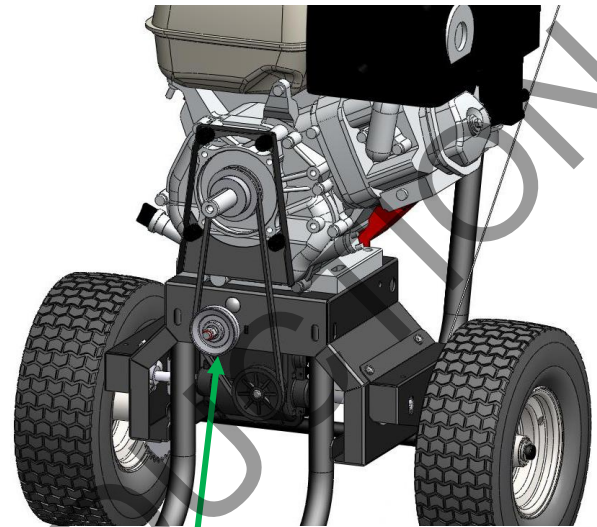

Fig. 6
3. Remove the four bolts (item #8) holding the back plate (item 4) to the back housing (item #6).
4. Loosen the nut on the idler pulley and slide it to the right to relieve tension on the belt. (See Fig. 6)